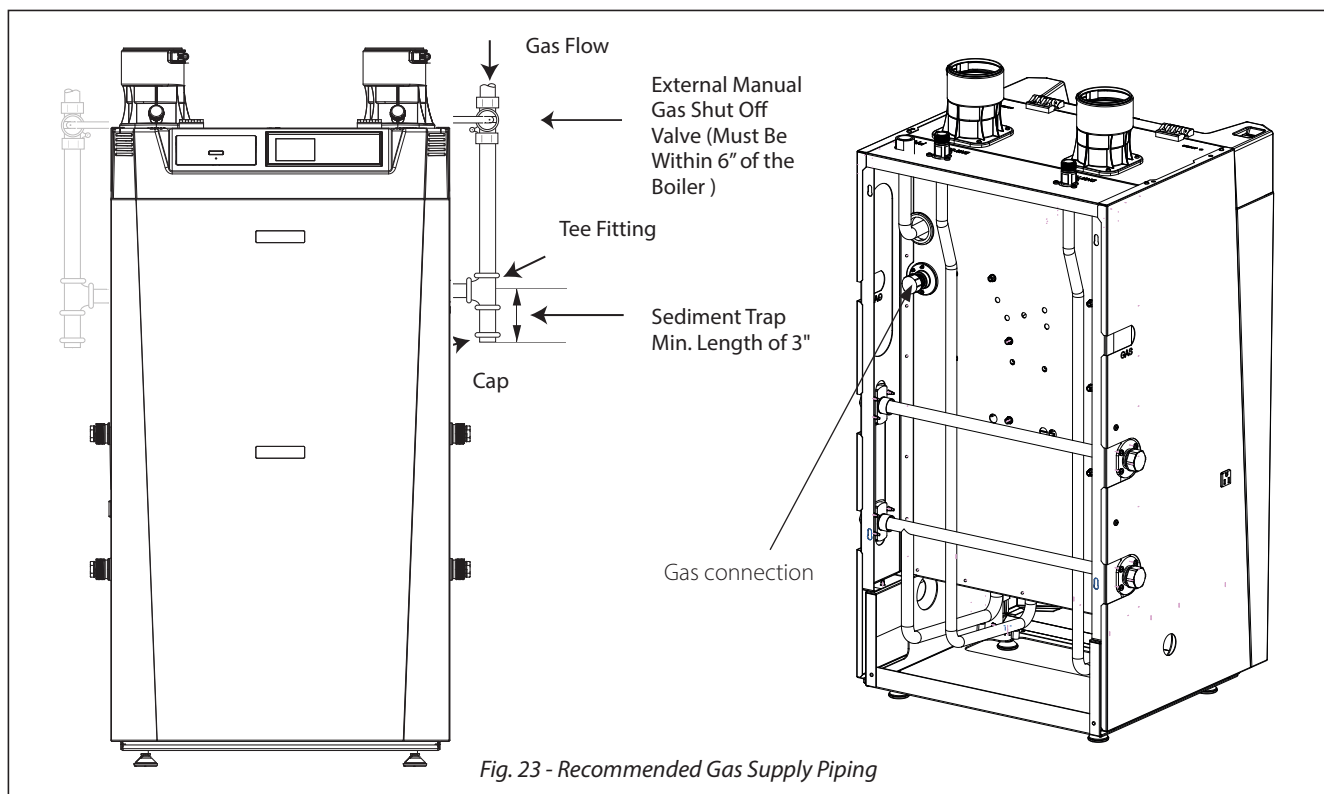

Fig. 23 - Recommended Gas Supply Piping
2. Install a manual shutoff valve in the gas supply piping as shown in *Fig. 23 above*. For installations in Canada, the installer must tag and identify the main shutoff valve.
3. Install a sediment trap (drip leg) on the gas supply line prior to connecting to the Instinct FSB gas train as shown in *Fig. 23 above*.